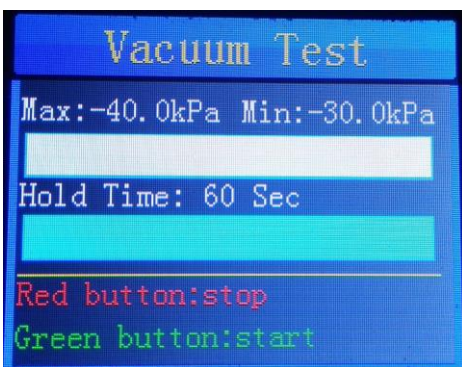

Figure 4
4. Enter into the test page (Figure 4, Figure 5) and press the green button to start testing.